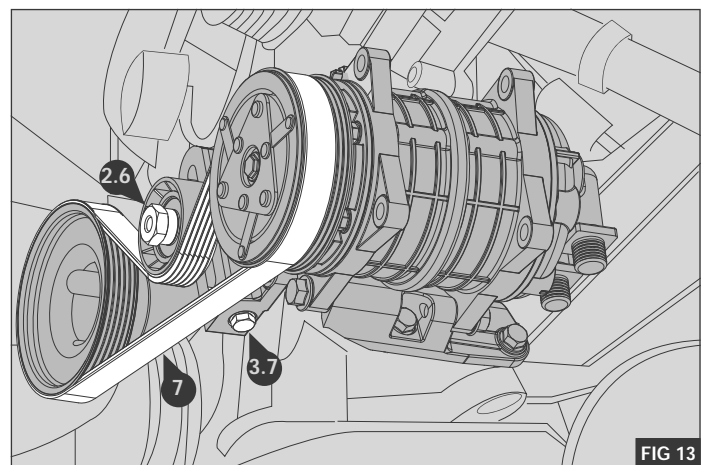

FIG 13
1. Refit the original manufacturers drive belt  previously removed to the engine in the same configuration and in accordance with the original manufacturers design detailed in - Fig 13
4. Once the correct tension has been attained, lock the idle pulley assembly with nut  - Fig 13